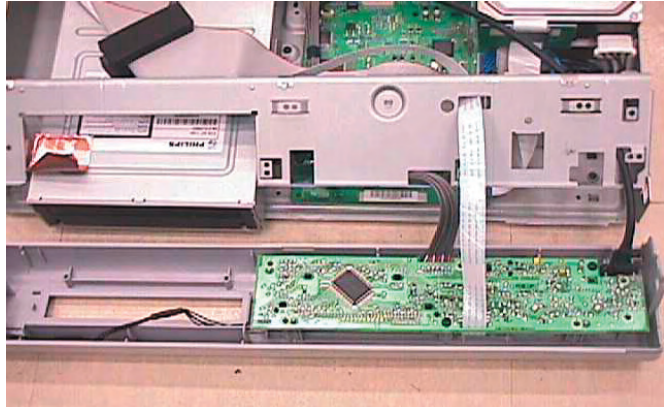

Figure 4-4: Front Board Service position
- 5) Remove 6 screws to loosen the Front plate to reach the Front board service position (see Figure 4-4).